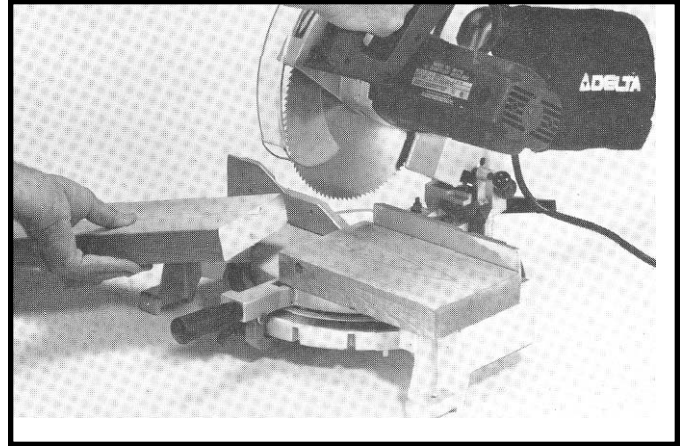
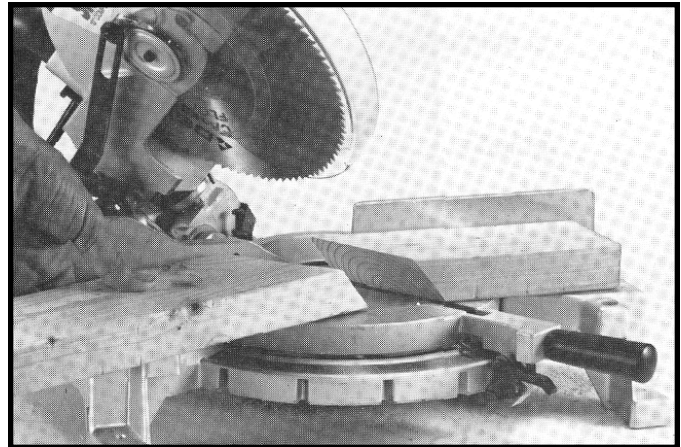

Fig. 35
Fig. 36
1. Your compound miter box has the capacity to cut standard 2 x 6's at the straight 90 degree cut-off position, as shown in Fig. 35, or at the 45 degree bevel position, as shown in Fig. 36.